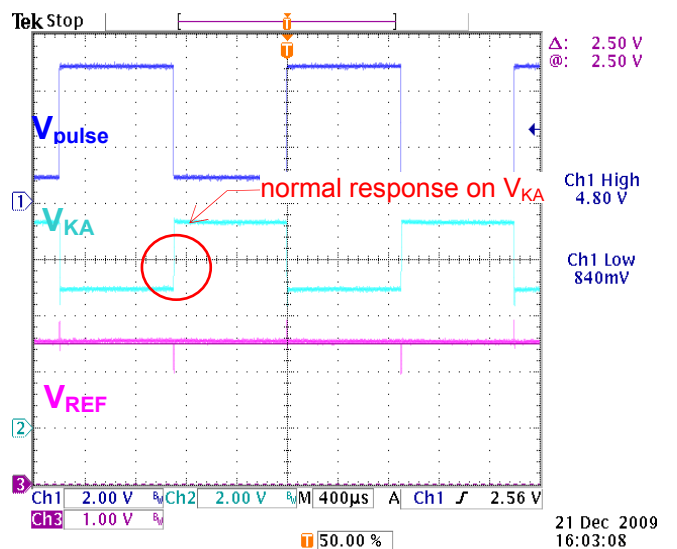

Figure 7: $R3=100$
- 3.3.3 Reduce R3 resistor value from 3.9k to 100 to support more current to Cathode node for faster loop response (Figure 7).